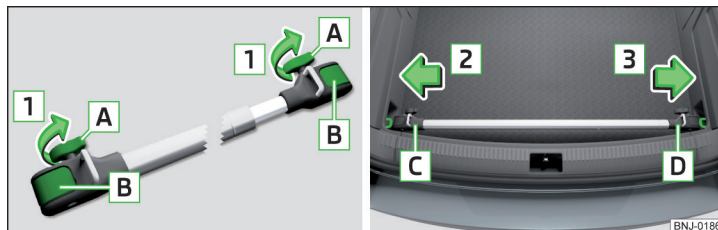

Fig. 105 Install crossmember: Loosen the screws and unlock brackets / place crossmember on the lashing eyelets
- To **install** complete detach the **A** screws in the direction of arrows **1** and pull out partially. The brackets **B** are unlocked » Fig. 105.